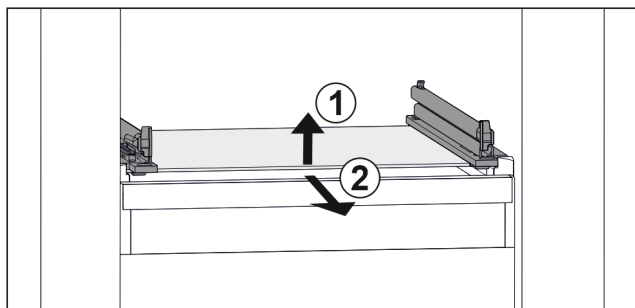

Fig. 176 Example illustration of glass shelf
- Lift glass shelf at the front. Fig. 176 (1)
- Take out glass shelf to the front. Fig. 176 (2)